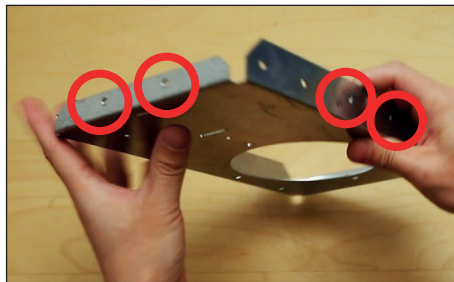

Fig. 2
- Identify hanger bar mounting holes on all sides of the Non-Electrical New construction housing. [ Fig. 2 ]